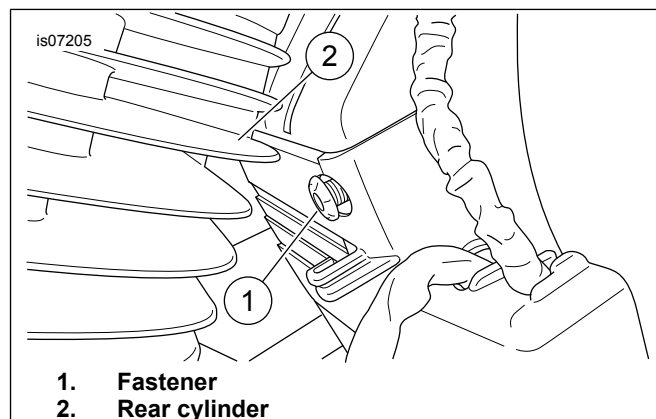

Figure 1. Electronic Control Module (ECM) Cover
3. See Figure 1. Remove the fastener (1) securing electronic control module (ECM) cover. Remove cover.